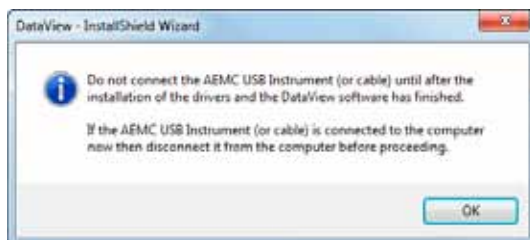

Figure 7-3
13. If the instrument selected for installation requires the use of a USB port, a warning box will appear, similar to Figure 7-3. Click **OK**.